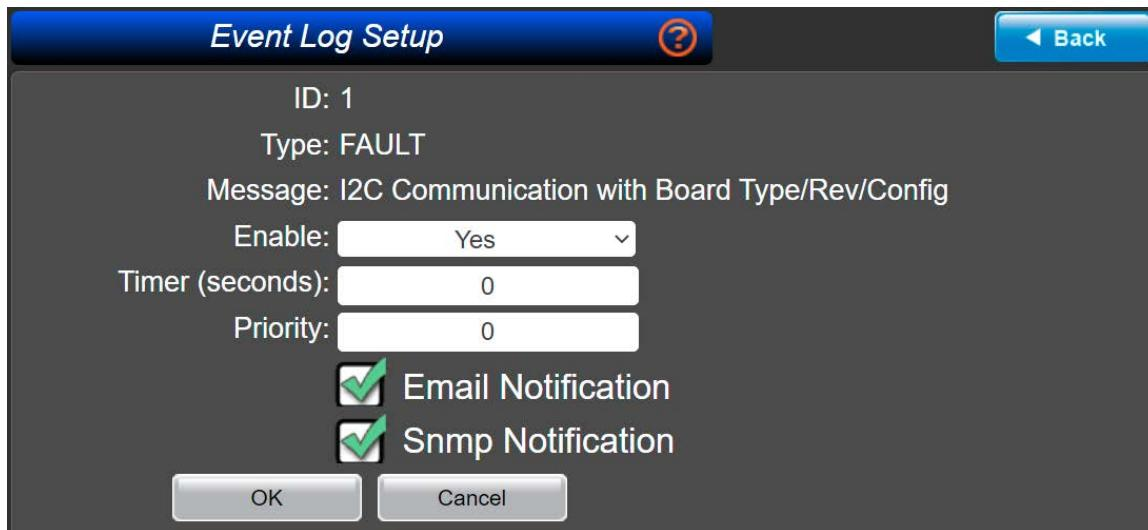

Figure 4-47 Event Log Edit
- Click on the **pencil** icon located on the right to open the sub-menu **Edit** screen Figure 4-47.
- Section 4.3.7.1 provides the information for submenu Edit screen in Figure 4-47.